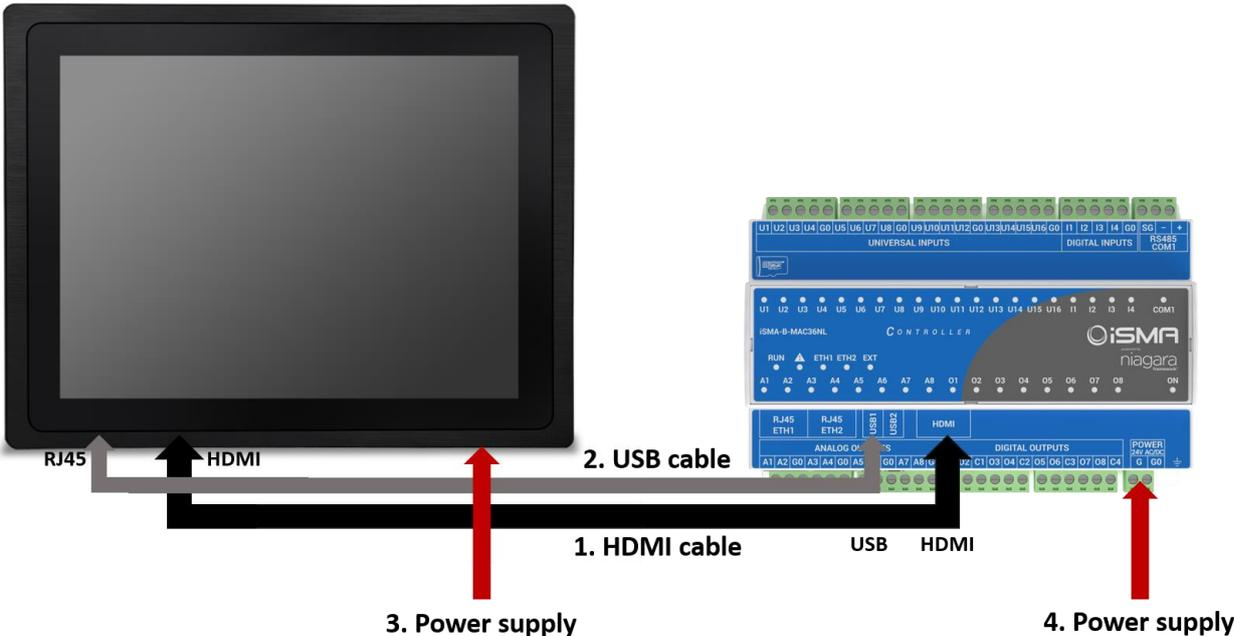

Figure 35. Connecting HDMI panel view
7. Connect the iSMA-B-MAC36NL controller with the panel HMI as in the above diagram (figure 35).